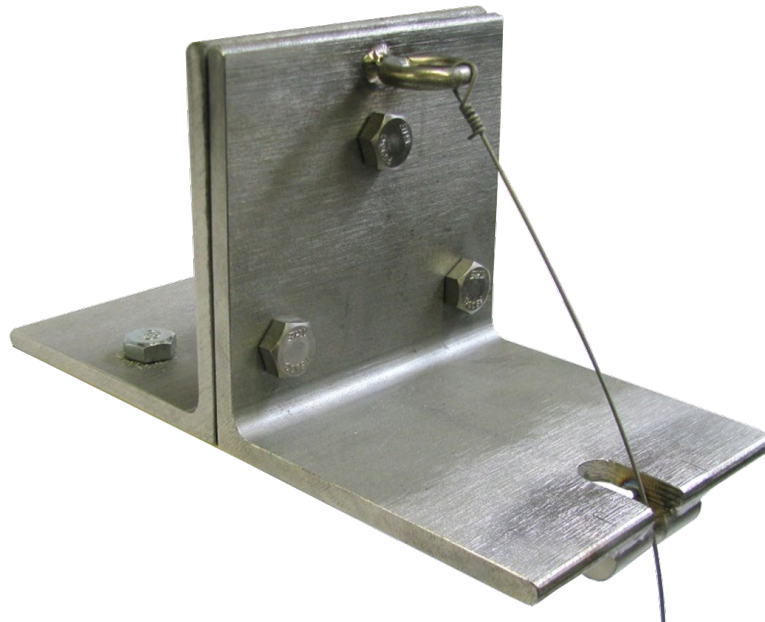

Figure 7 - Mounting Brackets with Twisted Wire
- 1) The wire for the direct pendulum system is normally anchored at the top of a borehole or in the roof of the gallery directly above the drill hole. If the wire is to be anchored to the floor at the top of the drill hole, two angle brackets are required (as shown in Figure 7); if it will be anchored to the ceiling over the hole, only the bracket with the wire guide is used. Mount the angle bracket(s) as follows:
- 2) Attach the pendulum wire to the bracket by feeding it through the wire guide and the eye and then twisting it around itself (Figure 7).